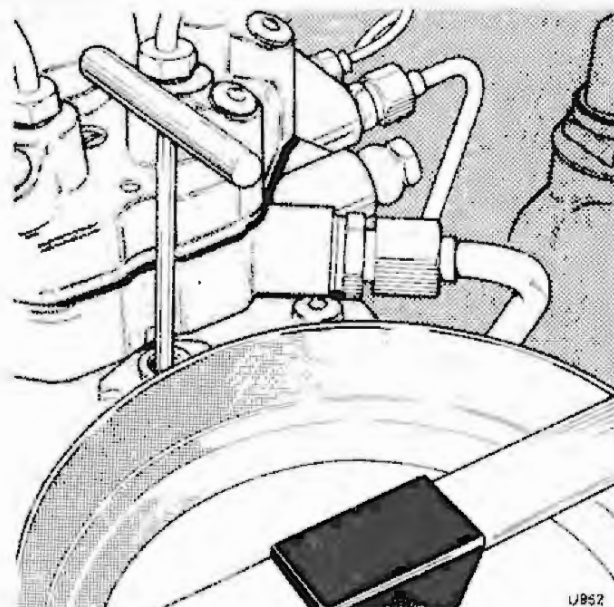

Fig. 2 Adjusting the mixture strength
8. If the CO value is outside the limits, remove the blanking plug situated on top of the mixture control unit (see fig. 2) to gain access to the mixture adjusting screw.